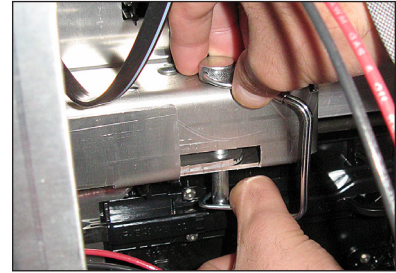

Figure 18: Remove Pins
1. Remove pins from one side of the control enclosure. Refer to **Figure 18**.